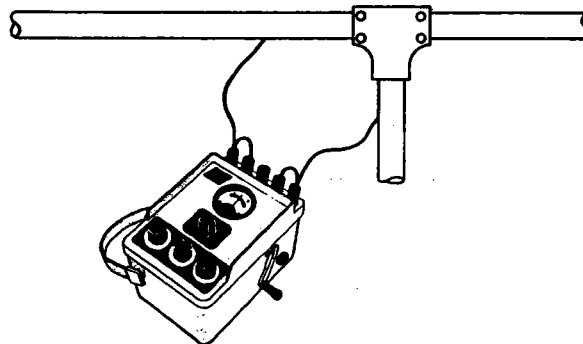

Figure 3-9. Connections for Testing Earth Continuity.
b. **TESTING THE CONTINUITY OF CONDUIT OR OTHER EARTH CONDUCTORS.** To measure metallic resistances of low inductance or capacitance conduit or other earth conductors, connect the earth tester as illustrated in Figure 3-9. Due to the low resistance to be measured, contact resistance between leads and conduit becomes a major consideration and must be as low as possible.